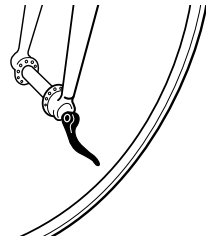

FIGURE 2
3. With the lever about halfway between the OPEN and CLOSED position [see fig. 2], tighten the quick release adjusting nut on the opposite end of the quick release axle until finger tight.